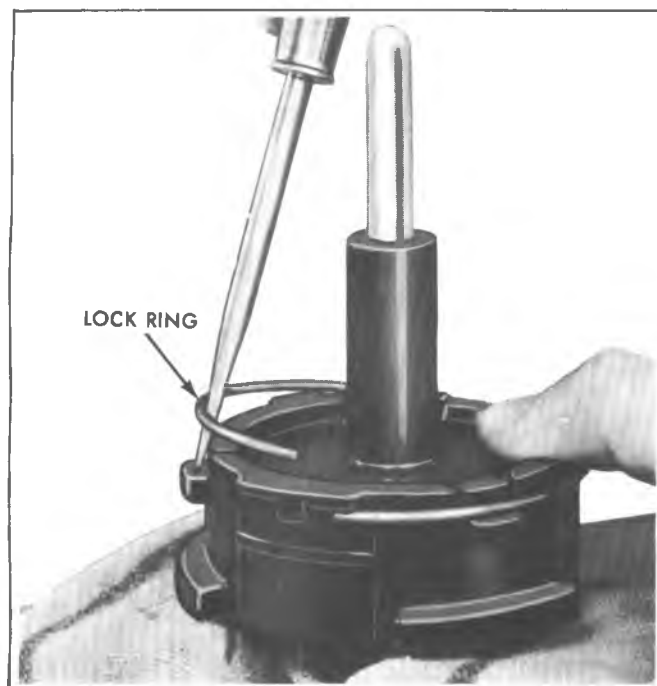

Fig. 5-4C--Removing Lock Ring From Power Piston
3. Remove lock ring from power piston by prying one end out from under large divided locking lug and then proceed to pull ring from under other two locking lugs on power piston (fig. 5-4C).